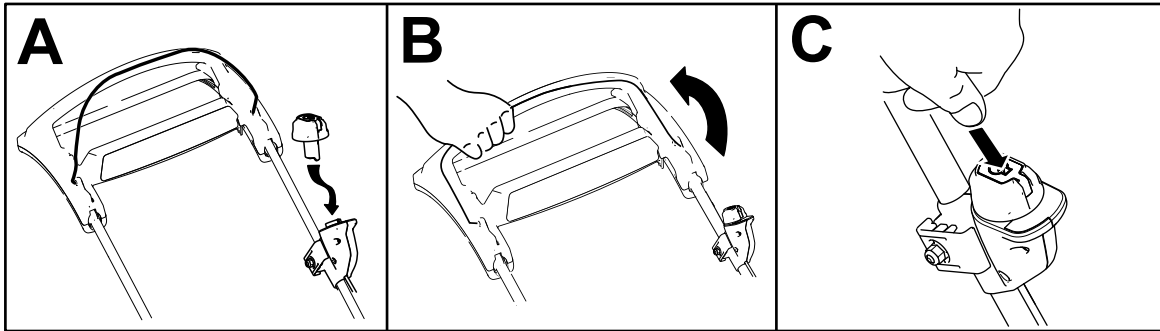

Figure 13
2. Insert the electric-start button into the electric-start switch (A of Figure 13).
3. Squeeze the blade-control bar and hold it to the handle (B of Figure 13).
4. Press the electric-start button and keep it pressed until the motor starts (C of Figure 13).